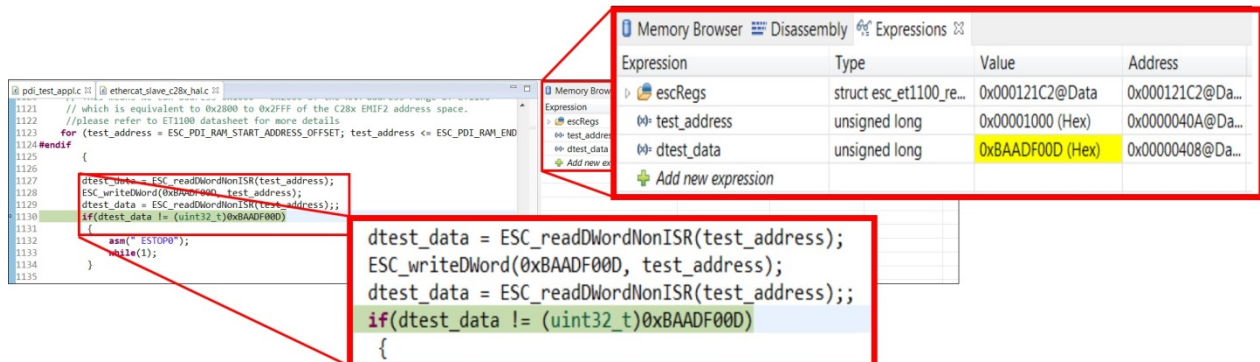

Figure 36. CCS Project Write to EtherCAT Slave
- Figure 36 shows program control after execution of the first 32-bit write and 32-bit read from PDI to ET100 address 0x1000.